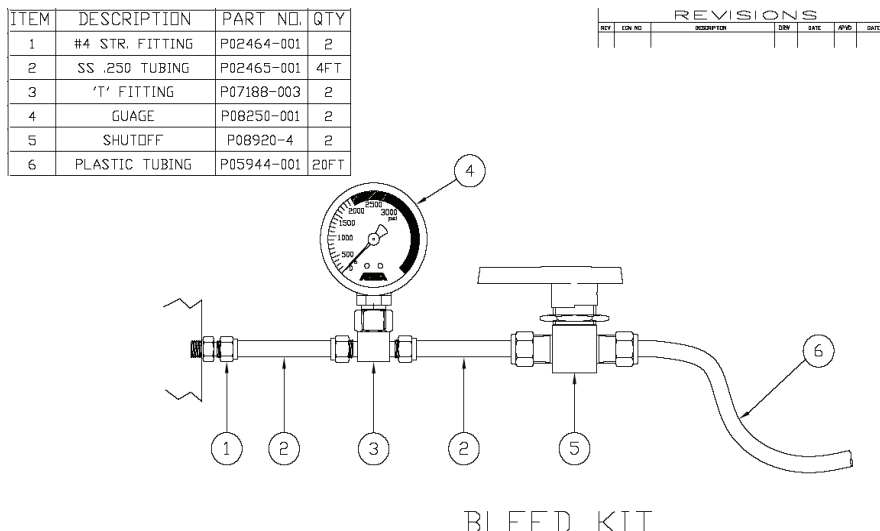

Figure 1.6.8-2 Bleed Kit (PN: K09275)
4. Attach the REXA bleed kit (Figure 1.6.8-2) to the open ports Extend/CW and Retract/CCW. Follow the hydraulic lines to differentiate between pressure direction (Figure 1.6.8-1).